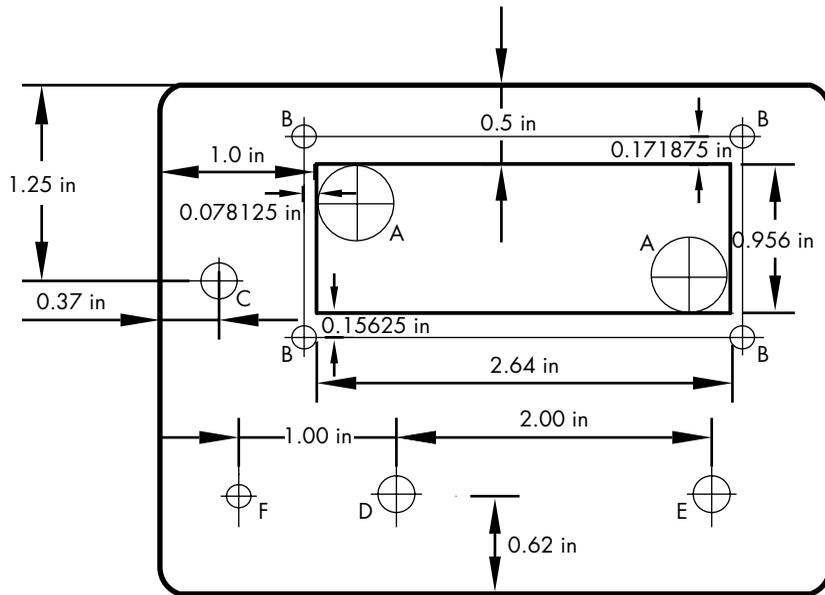
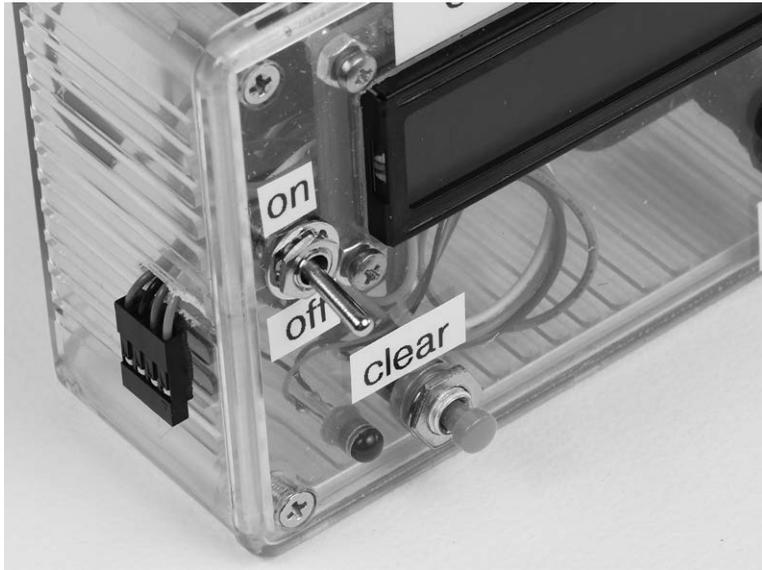

Figure 8-18: The holes and LCD cutout on the cover of the enclosure
Figure 8-19: The four-conductor female connector is mounted to the side of the enclosure using double-sided adhesive.
Figure 8-18 shows the positions for the holes and cutout in the enclosure. You can download a copy of Figure 8-18 from <https://www.nostarch.com/arduinoplayground/> and use it as a template.
- Prepare the cover of the enclosure, as shown in Figure 8-18, by drilling 1/2-inch holes for cutting out the LCD (A); 1/8-inch holes for mounting the LCD (B); 1/8-inch holes enlarged with a reamer for a tight fit for the 5 mm LED (F); and 1/4-inch holes for the momentary clear switch (D), momentary reset switch (E), and on/off switch (C).
- Mark the edges of the 1/2-inch holes (A) and connect lines tangent to the holes—you can use a Sharpie marker and clean excess marks later with alcohol.
4. There's a slight protrusion in the middle of the LCD on the right-hand side (facing up). This is part of the backlight assembly. You can cut a hole to accommodate this, as I did on both the Full Ballistic Chronograph and Chronograph Lite, or you can leave the edge straight and use spacers to keep the protrusion from hitting the enclosure. Even though I cut a space for the protrusion, I used a one-nut spacer anyway to space the connections on the top of the screen away from the front of the enclosure (see Figure 8-19).
11. Mount the connector for the sensor channel to the enclosure with double-sided adhesive, as shown in Figure 8-19.